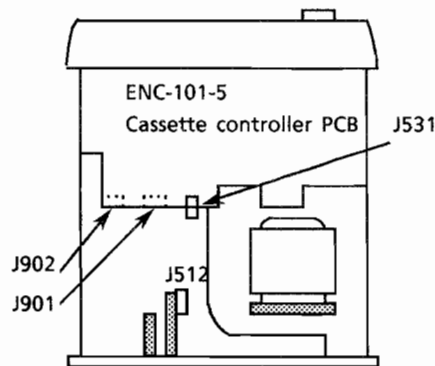

Fig 5
5. Remove the 3 screws (E) on the bottom of the front panel.
7. Disconnect the connectors J512, 531, 901 and 902 (Fig 5).